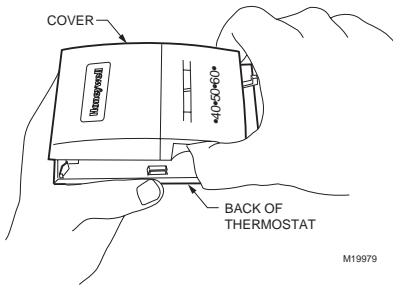

Fig. 3. Remove cover on new thermostat.
1. Remove the cover on the new thermostat. To remove the cover, insert your thumb into the indentation on the side and pull the cover away from the thermostat (see Fig. 3).